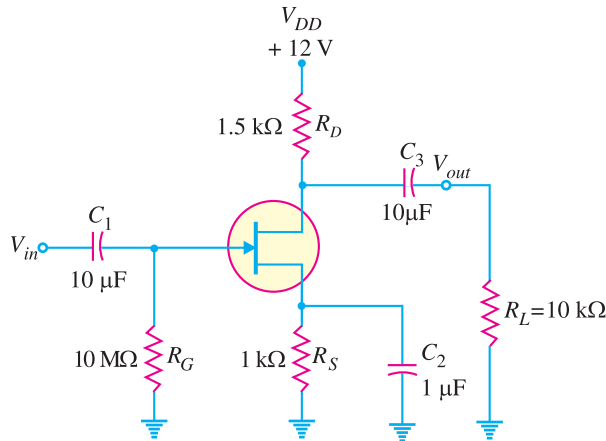

Fig. 19.68
10. If a 50 mV r.m.s. input signal is applied to the amplifier in Fig. 19.68, what is the peak-to-peak output voltage? Given that $g_m = 5000 \mu\text{S}$. [920 mV]